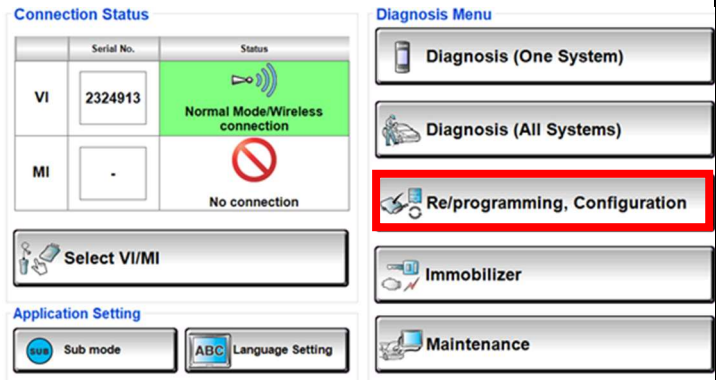

Figure 6
7. Select **Re/programming, Configuration.** (Figure 6)